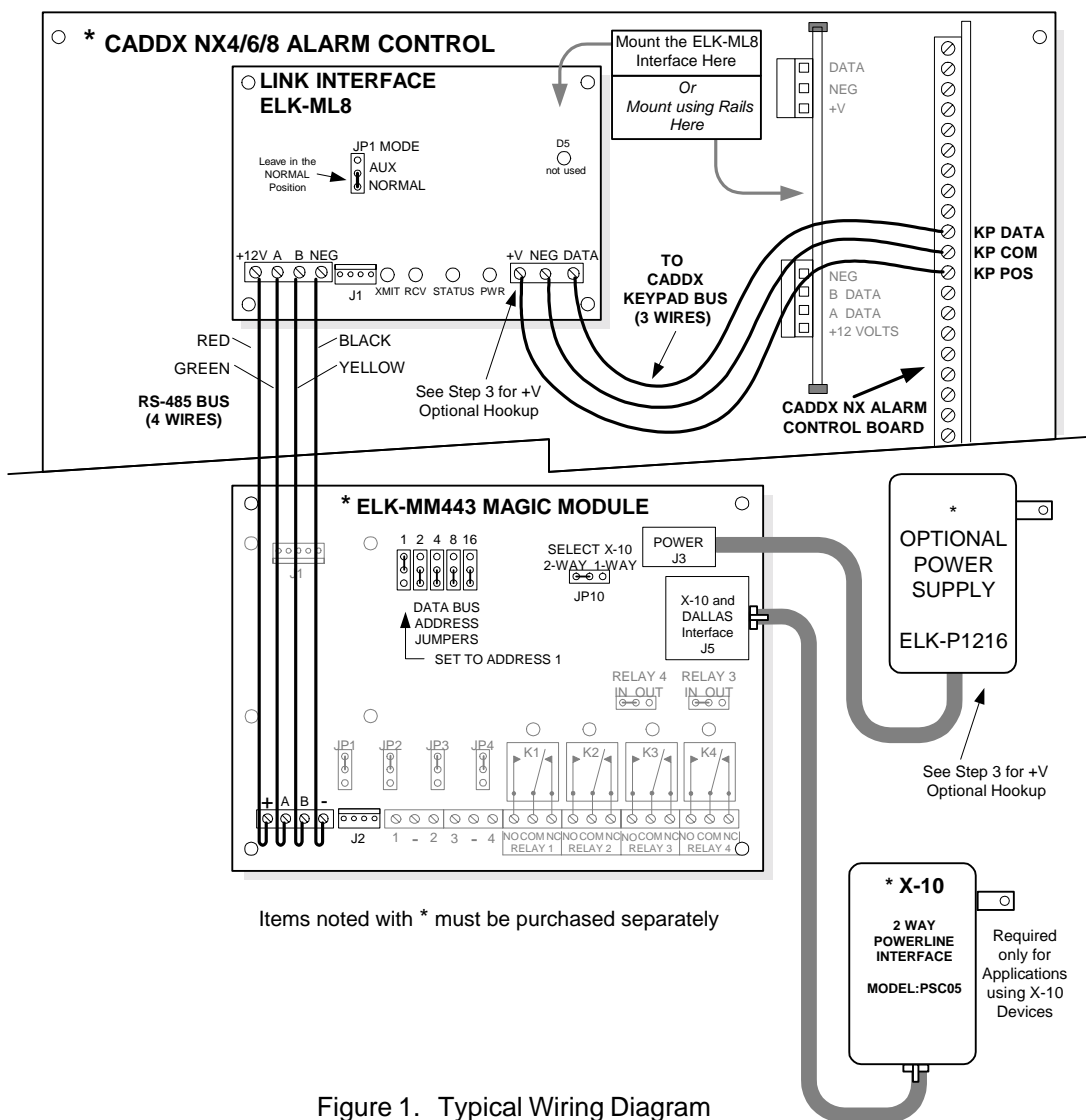

Figure 1. Typical Wiring Diagram
- Step 3.** Connect the Link Interface, Caddx NX Control, and Magic Module as per figure 1 below.
NOTE: Figure 1 shows the Magic Module components powered from the NX Control. Be certain that the maximum combined current draw including any keypads or auxiliary devices does not exceed the ratings published with the control. The Link Interface and one Magic Module draw 55mA idle or 185mA with all relays active. A Magic Voice Module will add an additional 70mA idle and up to 500mA when active with 3/4 volume setting. If you prefer (or need) to power the Magic Module from another source, leave off the Red +V wire from the keypad input to the ML8 and connect another DC power source to either the +12V and Neg terminals or J3 of the Magic Module. The Magic Module power receptacle **J3** accepts a plug-in 12Vdc (center pin positive) power supply such as the ELK-P1216 (sold separately).